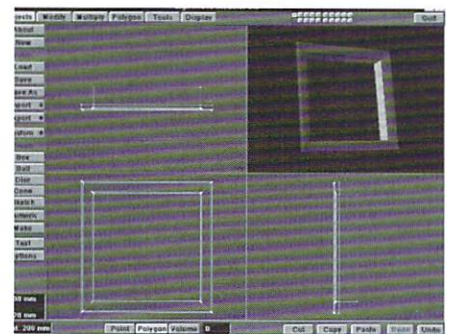

Figure 4
- Once you finish the bevels, hit the (Z) key to delete the polygon you used to create bevels. Your window frame should look like the one in Figure 4.